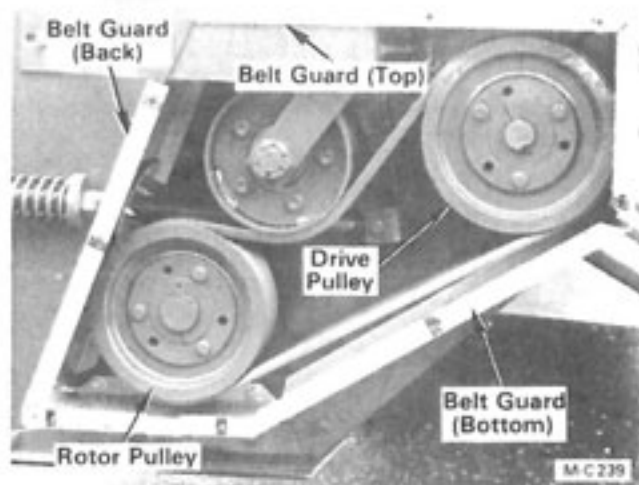

Figure 29
1. Remove the belt guard cover and place a straight edge across the face of the drive and rotor pulley, see Figure 29.